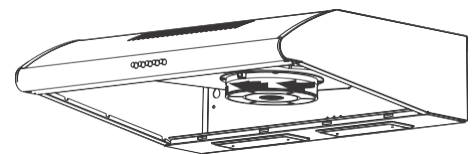

Fig. 8
4. Place the carbon filter in its housing (Fig. 8). Rotating the carbon filter clockwise, ensure that it has a good fit.